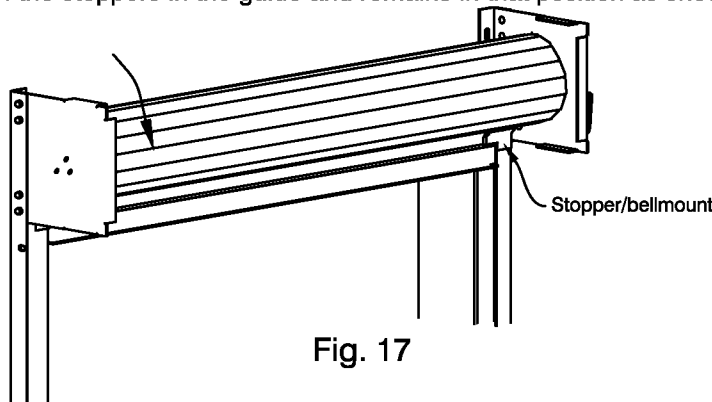

Fig. 17
1) Attach a pipe wrench to the charge side shaft, rotate the charge wheel until the bottom bar raises up to the bottom of the stoppers in the guide and remains in that position as shown in Fig. 17.